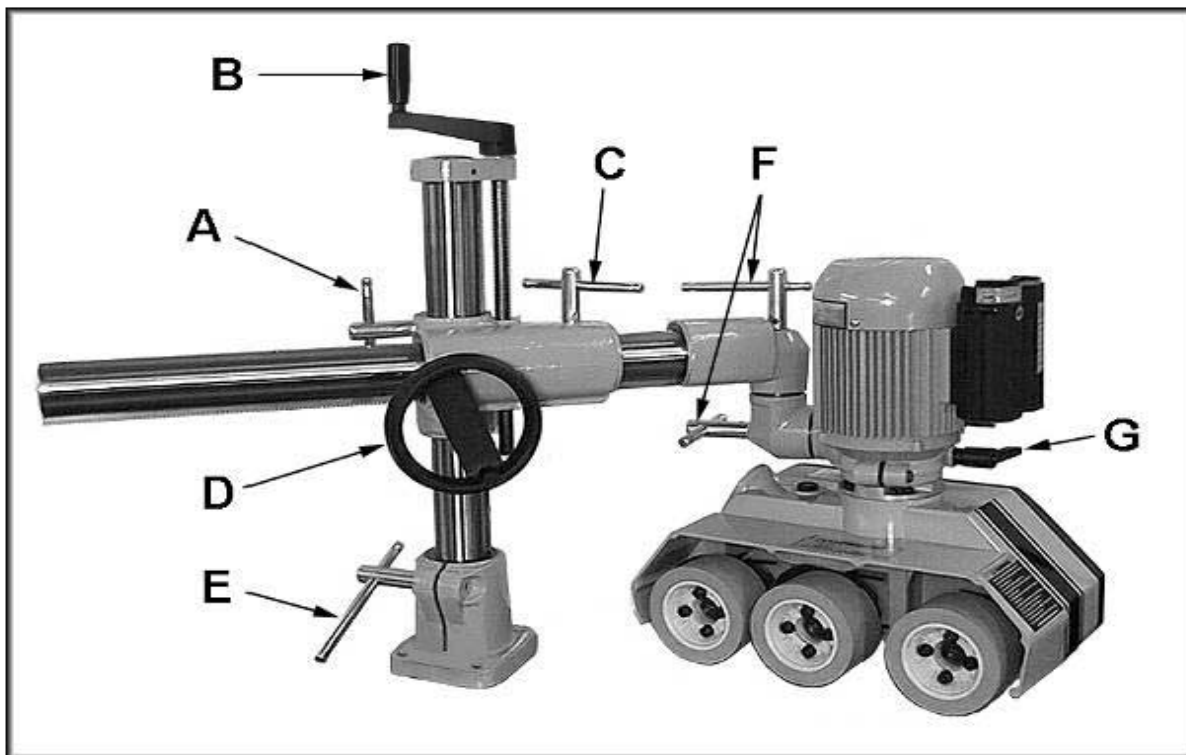

Figure 11 – Position Adjustment
The position controls are shown in to Figure11. To raise or lower the over arm, loosen handle (A) and rotate elevating handle (B). When adjustment is complete, re-tighten handle (A). To move the over arm forward or back, loosen handle (C) and rotate handwheel (D). When adjustment is complete, re-tighten handle (C). To swing the over arm across the table, loosen handle (E) and swing the over arm to desired position. Re-tighten handle (E) before operating the stock feeder. To rotate the cones to help position the feeder, loosen handles (F). Tighten handles